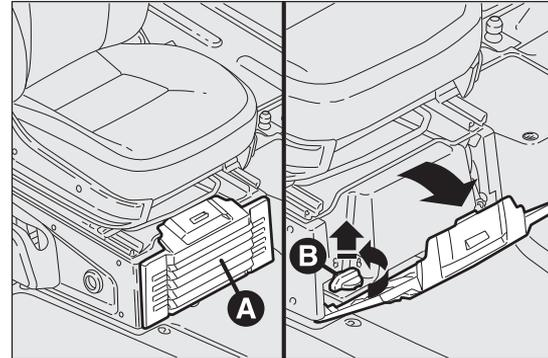

fig. 95
- Open the flap A fig. 95 and remove it as illustrated;